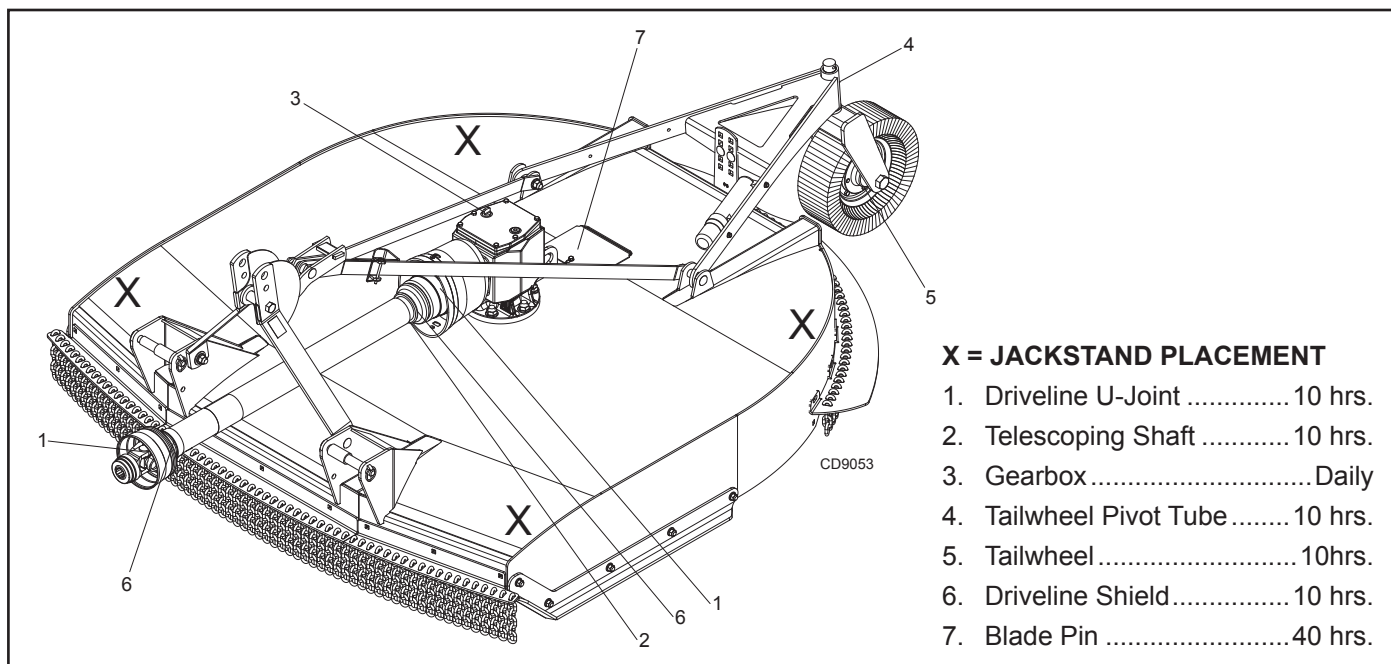

Figure 12. Jackstand Placement and Lubrication Points
1. Jackstands with a load rating of 1000 lbs. or more are the only approved blocking device for this cutter. Install jackstands (shown by Xs in Figure 12) under the cutter before working underneath unit.
2. See Figure 12 for lubrication points and frequency or lubrication based on normal operating conditions. Severe or unusual conditions may require more frequent lubrication.
- If blade pin (7) is seized in crossbar and extreme force will be needed to remove it, support crossbar from below to prevent gearbox damage.
2. Raise cutter and block securely (see Blocking Method, Figure 12).
3. Open blade access cover and align crossbar assembly (2) with blade access hole in the cutter frame. Remove cap screw (13) blade pin lock clip (12) key-hole plate (11) and shims (8, 9 & 10). Carefully drive blade pin out of crossbar.
3. Loosen six 12 mm cap screws (7) to remove all tension from the compression springs (5).
4. Hold clutch hub (3) solid and turn shaft to make sure clutch slips.
5. If clutch does not slip freely, disassemble and clean the flange yoke (1), clutch hub (3), drive plates (4 & 5), and thrust plate faces (6).
7. Compress each of the six compression springs (8) by tightening the six cap screws (7) and lock nuts (10). The compression springs should be compressed to a height of 1-7/16", not including washer (9). The minimum spring height is 1.36". See Figure 12.
8. If a clutch continues to slip when the springs are compressed to 1.36", check friction discs (2) for excessive wear. Discs are 1/8" when new. Replace discs after 1/16" wear.